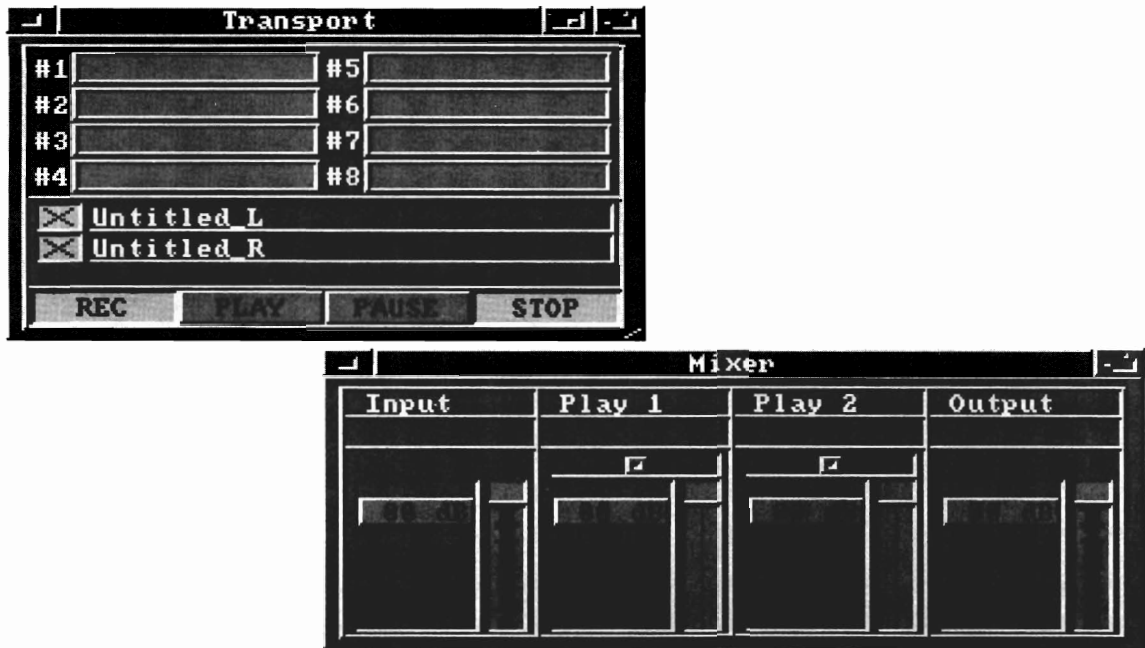

Figure 3-4. Transport and Mixer Modules
2. Launch Transport and Mixer from the Applications Menu. Close all other modules that may be open. Figure 3-4.